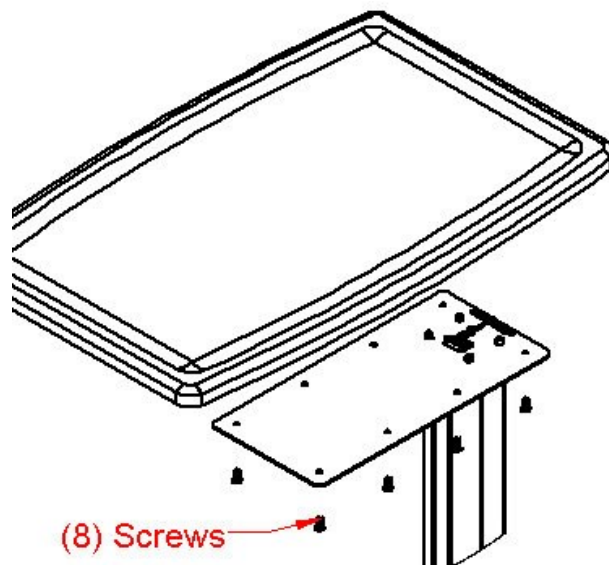

Figure 5
Raise the unit to its fullest extension. Remove (8) screws from the underside of the plate. Lift top up and off of the plate. See Figure 5